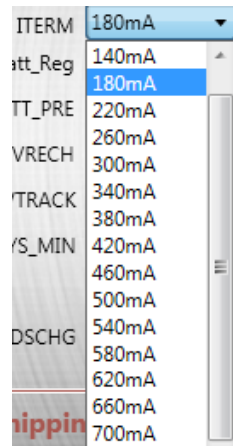

Figure 10: Terminal Charge Current Setting
- Set the terminal charge current (see Figure 10). The terminal charge current ranges between 100mA and 700mA, and the default value is 180mA.